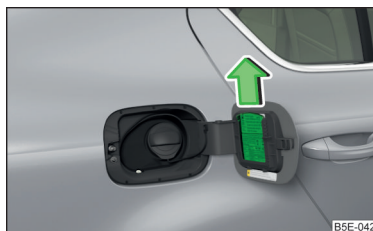

Fig. 179
- Slide out the ice scraper in the direction of the arrow » Fig. 179.